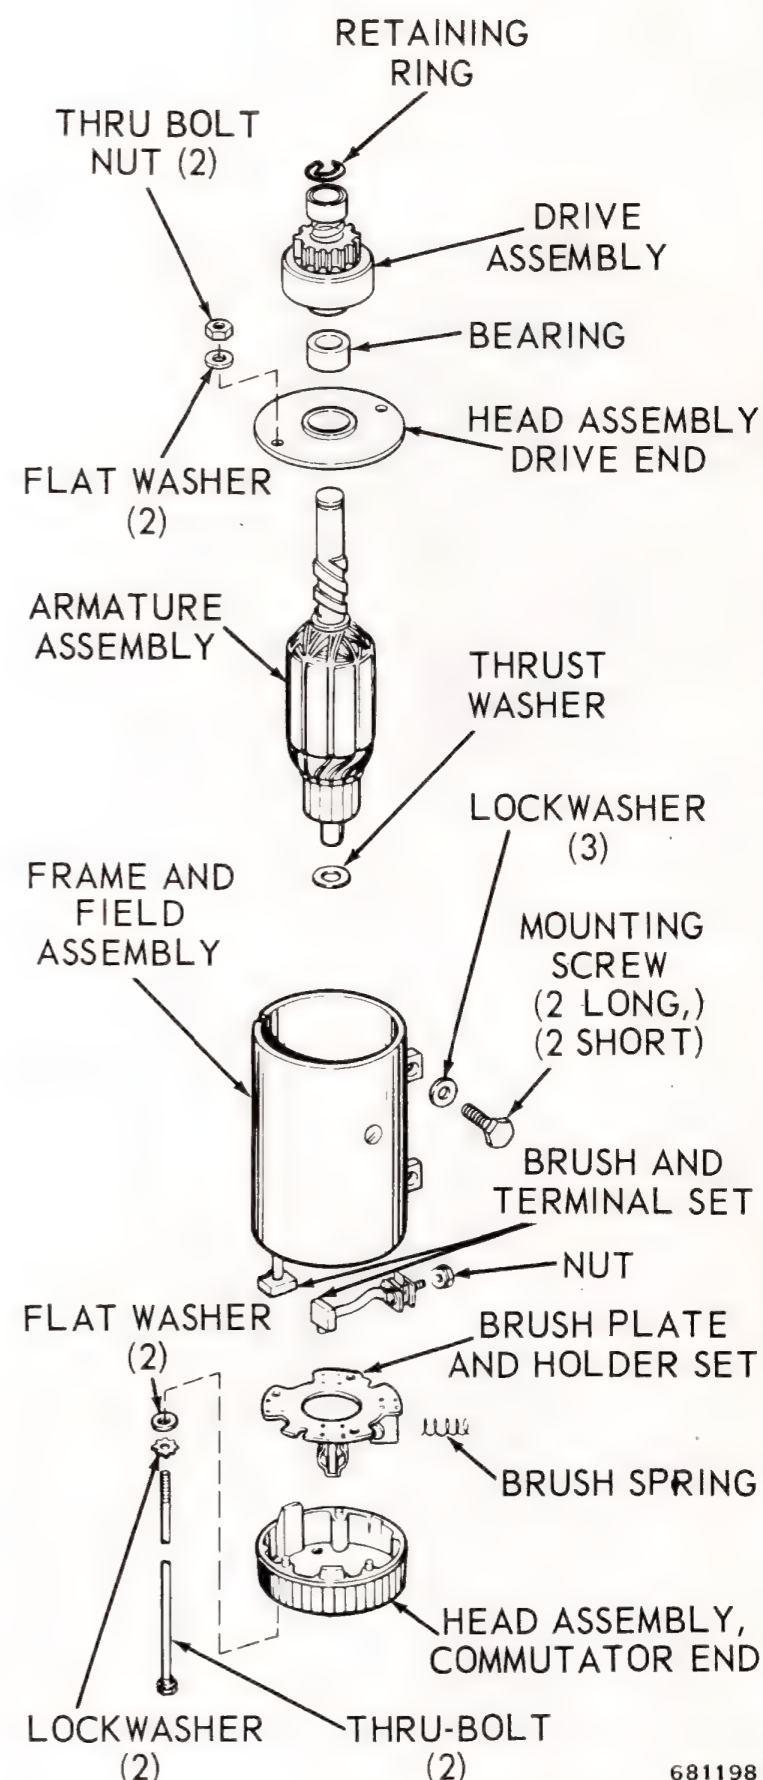

Figure 7-4. Starter Components
The starter motor drive pinion is disengaged when at rest and is made to mesh with the flywheel ring gear by the rotation of the starter motor armature. After the motor has started, the starter pinion is driven faster than the starter motor shaft and moves down the screw shaft out of mesh with the flywheel. See Figure 7-4.
d. Remove commutator head by tapping lightly with a rubber mallet. Remove brushes and spring from holder. Lift armature from frame and field assembly. See Figure 7-4.